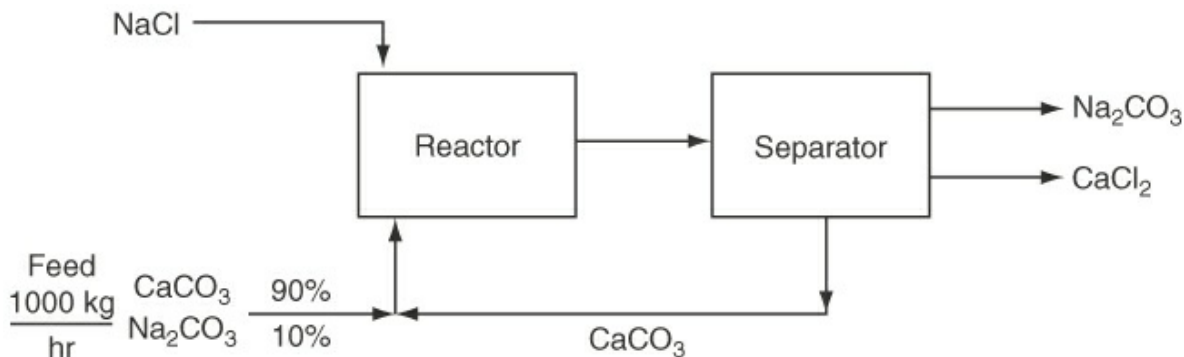

Figure P5.3.12
- **5.3.12** Examine Figure P5.3.12. NaCl and the feed solution react to form CaCl_2 . In the reactor, the conversion of CaCO_3 is 76% complete. Unreacted CaCO_3 is recycled. Calculate (a) the kilograms of Na_2CO_3 exiting the separator per 1000 kg of feed, and (b) the kilograms of CaCO_3 recycled per 1000 kg of feed.